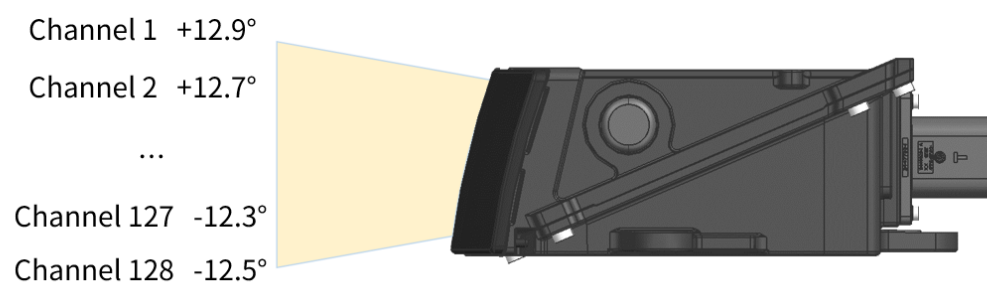

Figure 4. Channel vertical distribution
- The designed vertical resolution is 0.2° across the FOV, as shown in Figure 4 and detailed in Appendix A Channel distribution data.